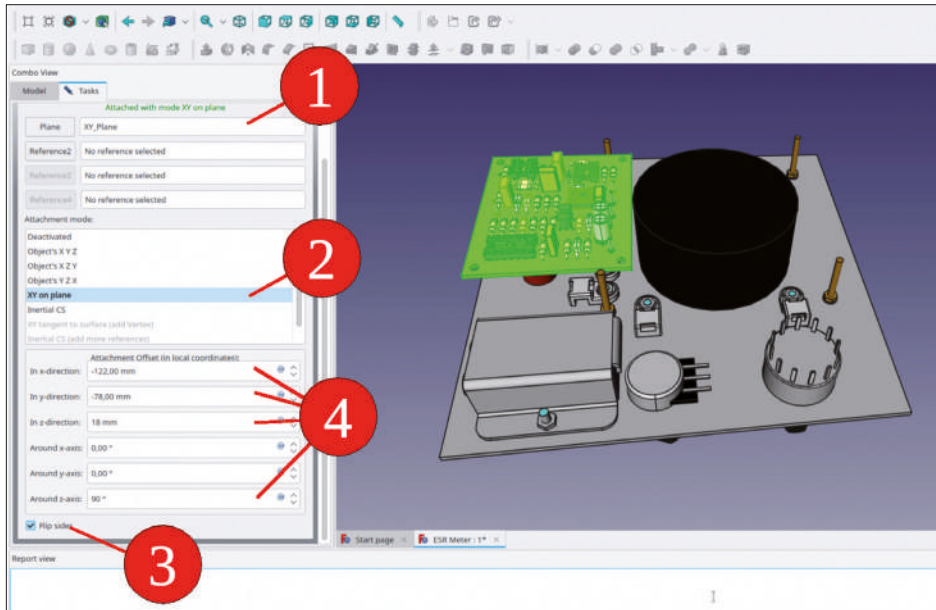

Figure 7-61
5. Now, you attach the circuit board to the assembly: Mark the Std-Part-Container 'ESR Meter PCB Complete' and switch to the 'Part' workbench. From the main menu, select 'Part | Attachment'. In the task window, the collector for 'Reference 1' is already activated. From the tree view in the 'Model' tab, select the XY plane to the 'ESR Meter Complete' Std-Part-Container. Return to the 'Tasks' tab. Check the 'Flip sides' checkbox and enter the following attachment offsets: X = -122 mm, Y = -78 mm, Z = 18 mm, Rotation about Z = 90° (Figure 7-61). Close the task window with the 'OK' button.